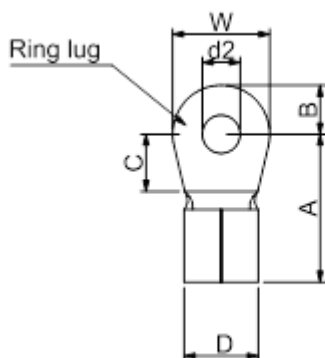

Figure 5-6
- Use the specified ring lug for main circuit terminal wiring. See Figure 5-6 and Figure 5-7 for ring lug specifications. For other types of wiring, use the wires that comply with the local regulations.